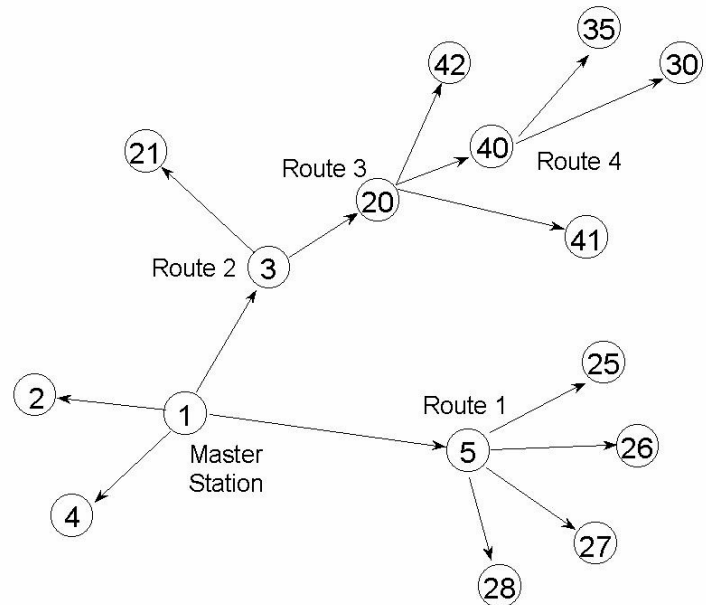

Figure 1: Repeater Example
Any ESTeem Model 195M, 195H or 195C in the wireless network can be used as a repeater to reach a remote location. Manually entering repeater routes in a terminal for testing a connection (connect command) or remote programming (program command) is as simple as adding the routing in the address with the repeaters identified by commas. For example, using Figure 1, if your computer is connected to the ESTeem 195M/H/C at the Master Station and you want to connect to address 21, your command would be “connect 3,21”. Also if you wished to connect to address 30 from the Master Station your command would be “connect 3,20,40,30”.
Figure 1 shows a complex, 16 node site with four (4) repeater routes. This example will illustrate the terms used in the utility and how they correspond to the stations in your site.
Look in Figure 1 and note that four of the ESTeems will relay the radio signal for other ESTeems (addresses 3, 5, 20 and 40). These are the repeater routes. A total of four repeater routes will need to be completed for this site.
Route 1: To complete the first repeater route entry, refer to Figure 1 and find repeater address 5 (Route 1). The ESTeem/PLC addresses that use this route are addresses 25-28. In the 195M/H/C Configuration Utility select the Route/Append tab and press the *Edit Tables* button (Figure 2
Route 2: Refer to Figure 1 and find Route 2. This route has a repeater address of 3 and addresses 20 through 21 use this route. **Note:** Although address 20 is a repeater for another route, it requires an ESTeem address and needs to be counted. Type 3 in the first repeater block, 20 in the first address field and 21 in the second (Figure 4).